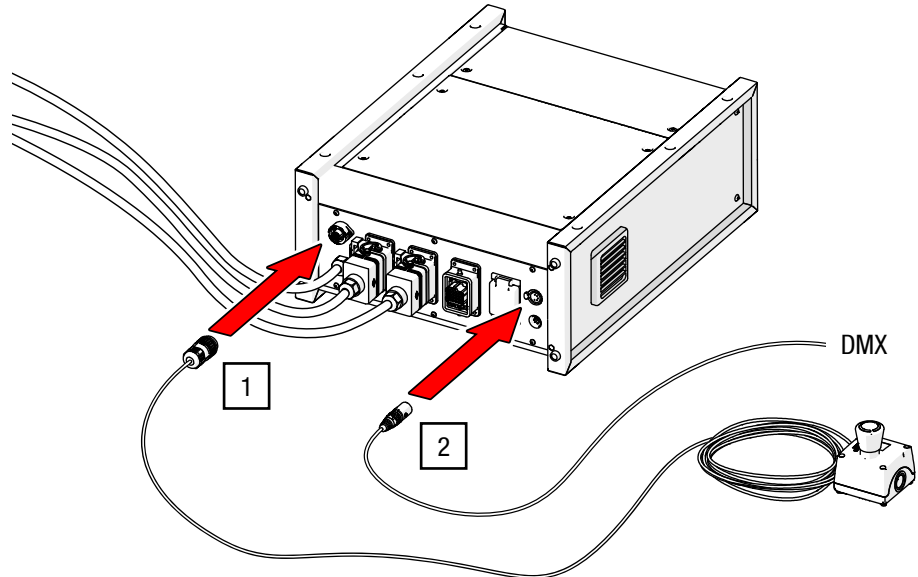

Fig. 25: G-FRAME 54 – Connecting DMX
1. Connect the plug from the emergency stop button to the emergency stop socket on the back of the control unit (see Fig. 25).
2. Connect the DMX input cable from an external DMX controller to the DMX-IN socket on the rear of the G-FRAME control unit using the 5-pin XLR plug (5/Fig. 6) (see Fig. 25).